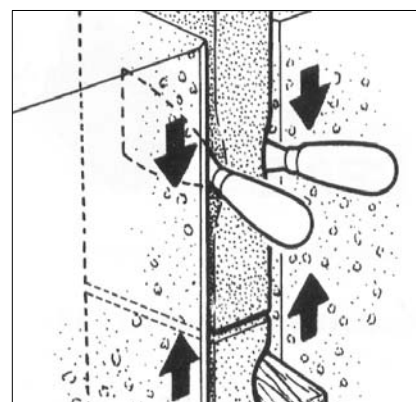
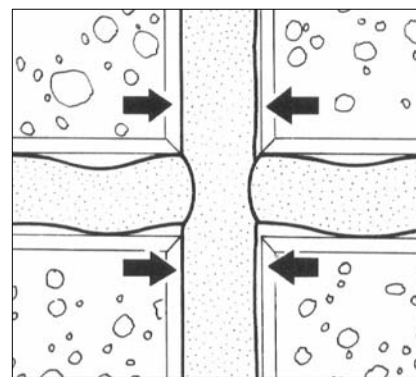

Fig. 2 – Compression of tape to make watertight butt joints.
Fig. 3 – Compression of tape to make watertight cross joints.
- At the end of a roll, cut off the tape wedge finish. Repeat the process with a new roll, making a close compressed butt connection as shown in Fig. 2. At cross of crucifix joint, install as per Fig. 3.